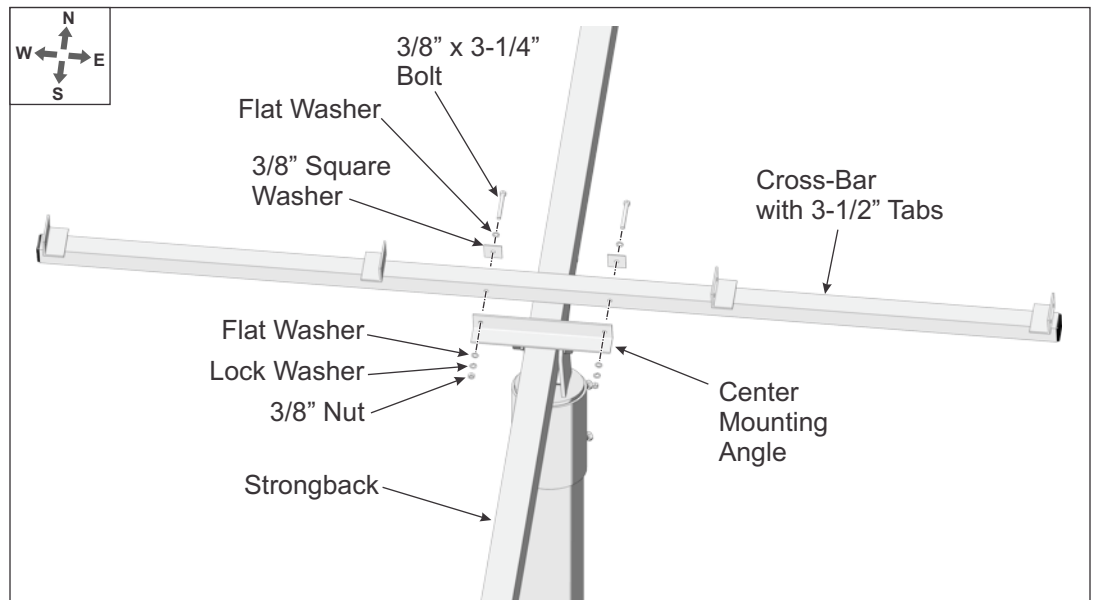

Figure 3-3: Installing Cross-Bars on the Strongback
- B. Position the Cross-Bar on the outside of the center mounting angle of the Strongback. Align the mounting holes and secure using 3/8" flat and square washers along with the 3/8" x 3-1/4" bolts and lock washer placing the square flat washer against the Cross-Bar. Tighten hardware and **Torque to 30-32 ft.-lbs.** (See Figure 3-3)